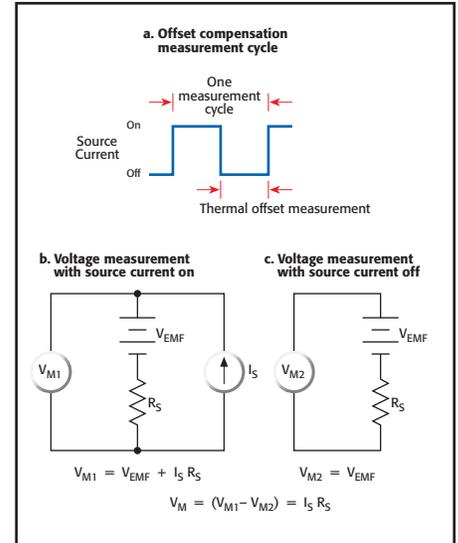

Figure 5a: Subtracting thermoelectric EMFs with Offset Compensation
- Offset Compensation Technique (Figure 5a)** applies a source current to the resistance being measured only for part of the measurement cycle. When the source current is on, the total voltage measured by the instrument is the sum of the voltage due to the test current and any thermoelectric EMFs present in the circuit. During the second half of the measurement cycle, the source current is turned off and the only voltage measured is that due to the thermoelectric EMF. This unwanted offset voltage can now be subtracted from the voltage measurement made during the first half of the delta mode cycle.